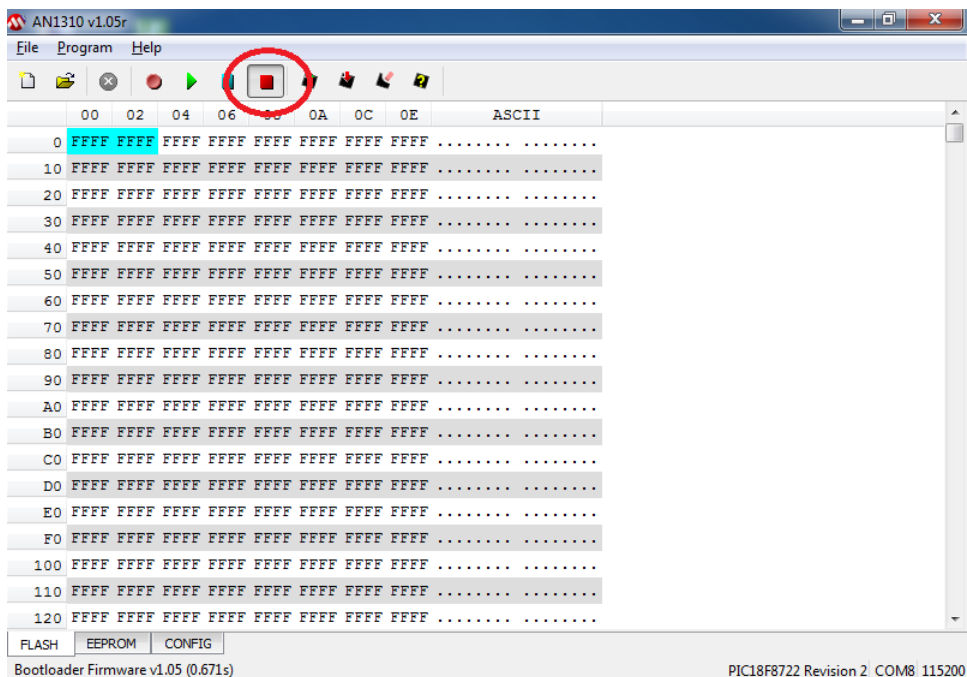

Figure 3.16
6. Press the red **Break Mode** button (Figure 3.16).